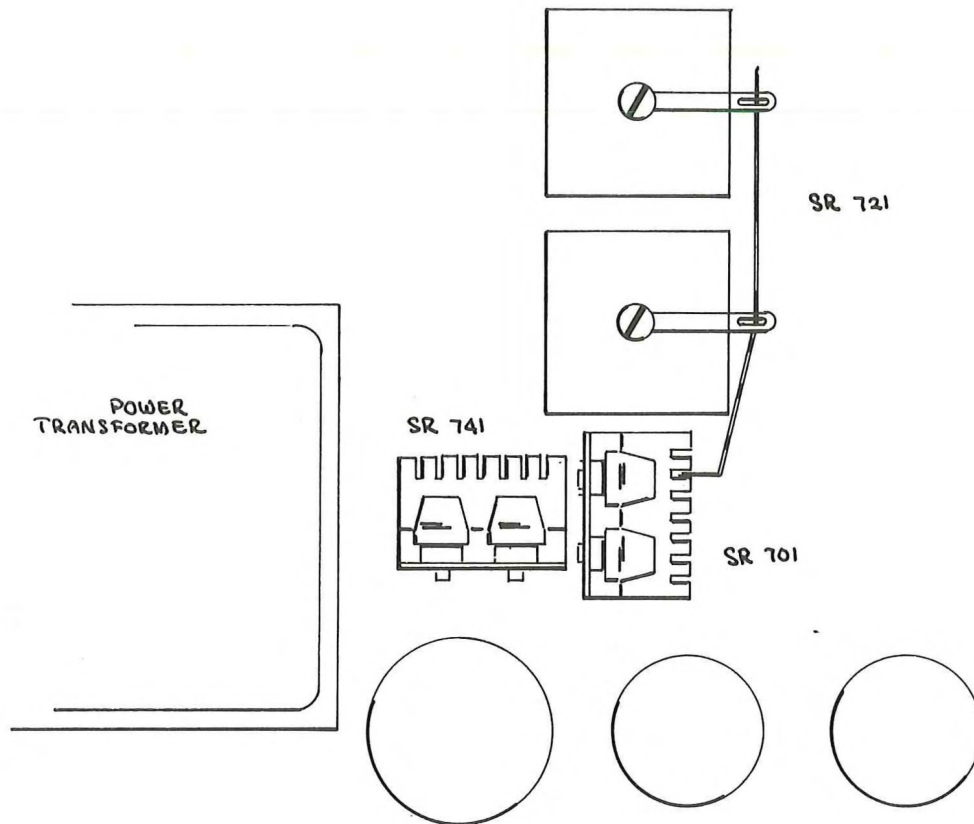

Fig. 2
- ( ) Connect bare wire to SR701 as shown in Fig. 2.
- ( ) Orient assembly as shown in Fig. 2. If replacing SR701, do not connect the bare wire to SR721 until step 3.
- ( ) 3. Mount silicon rectifier assembly in instrument using a #6-32 x 3/8 screw and flat washer from the kit. Orient as indicated in Fig. 2 or 3.